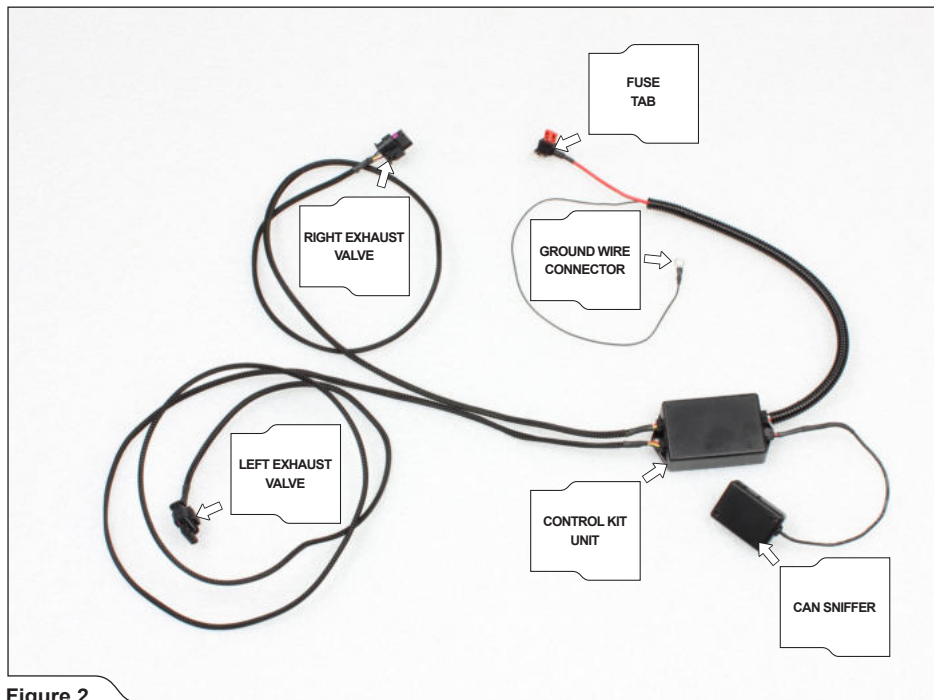

Figure 2
2. Control Kit and its components (Figure 2).